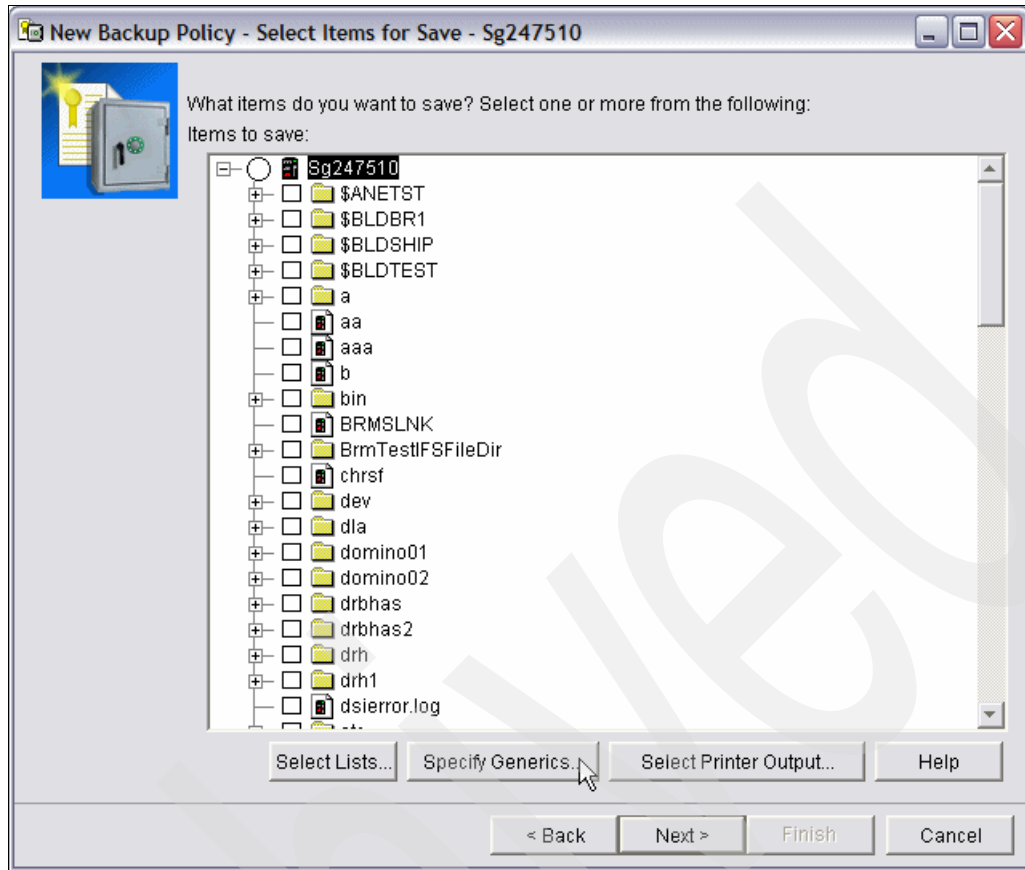

Figure 6-50 New Backup Policy - Select Items for Save (Specify Generics)
8. As shown in Figure 6-50, this opens a graphical tree of all our i5/OS partition's *data repositories* including libraries and Integrated File System directories (folders). We can select each of the repositories in the list and or the objects that will appear under each of the Select Lists, Specify Directories - all, and Select Printer Output buttons.